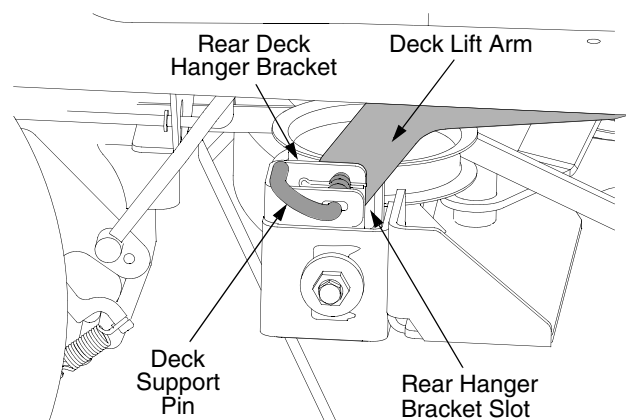

Figure 29
5. Locate the LH and RH deck support pins on each side of the deck. Pull the deck support pins outward and lock in the disengaged position to release the deck from the tractor's LH and RH deck lift arms. See Figure 29.
- Maneuver the deck so that the slots in the two rear deck hanger brackets approximately align with the deck lift arms of the tractor. Refer to Figure 29.
- Pull the deck support pins outward and maneuver the deck as necessary to align the holes in the deck lift arm with the pins. Refer to Figure 29.